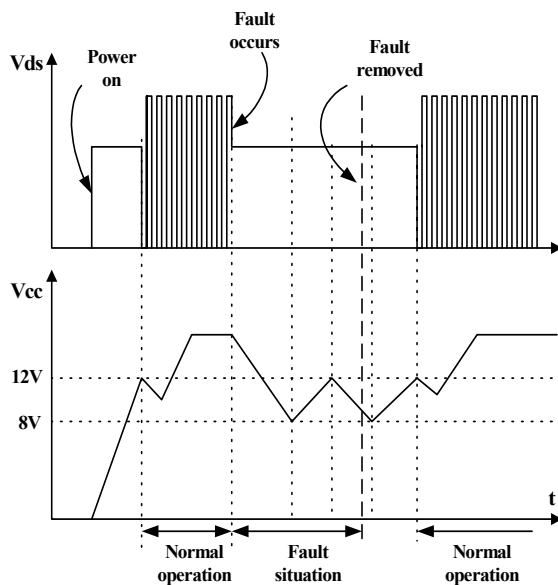

Figure 7. Auto restart operation
**3. Protection Circuit :** The FSCM0765R has several self protective functions such as over load protection (OLP), over voltage protection (OVP) and thermal shutdown (TSD). Because these protection circuits are fully integrated into the IC without external components, the reliability can be improved without increasing cost. Once the fault condition occurs, switching is terminated and the Sense FET remains off. This causes Vcc to fall. When Vcc reaches the UVLO stop voltage of 8V, the current consumed by FSCM0765R reduces to the startup current (typically 25uA) and the current supplied from the DC link charges the external capacitor (Ca) that is connected to the Vcc pin. When Vcc reaches the start voltage of 12V, FSCM0765R resumes its normal operation. In this manner, the auto-restart can alternately enable and disable the switching of the power Sense FET until the fault condition is eliminated (see Figure 7).